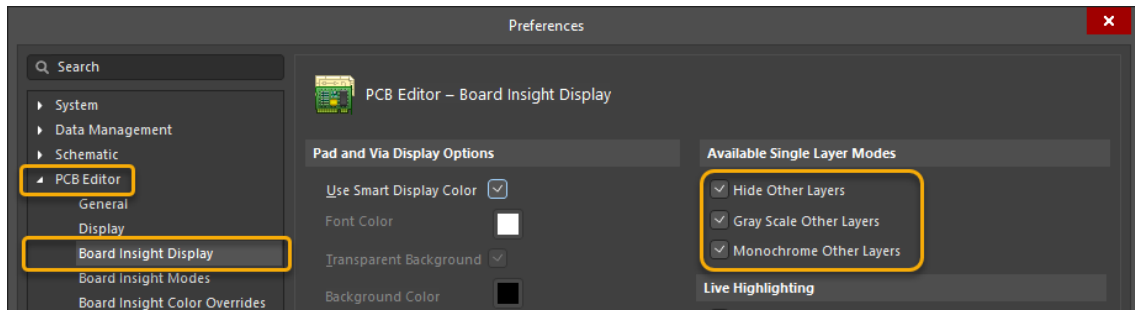

Figure 14. Available Single Layer Modes
- Enable all options under *Available Single Layer Modes* as shown in Figure 14, if not enabled already. Then, press **OK**.